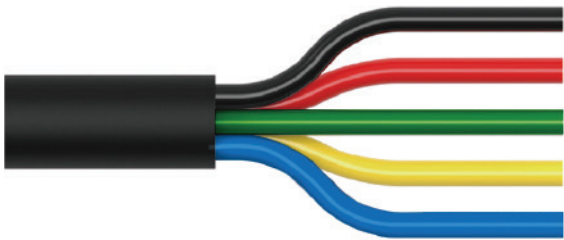

FIG. 1
3. Connect the **BLUE** or **YELLOW** or **GREEN** wire to the desired upfitter switch relay. See FIG. 1 for individual ACC wire function. When the upfitter switch is activated light and pattern will trigger.
1. See FIG. 1 for individual ACC wire function.